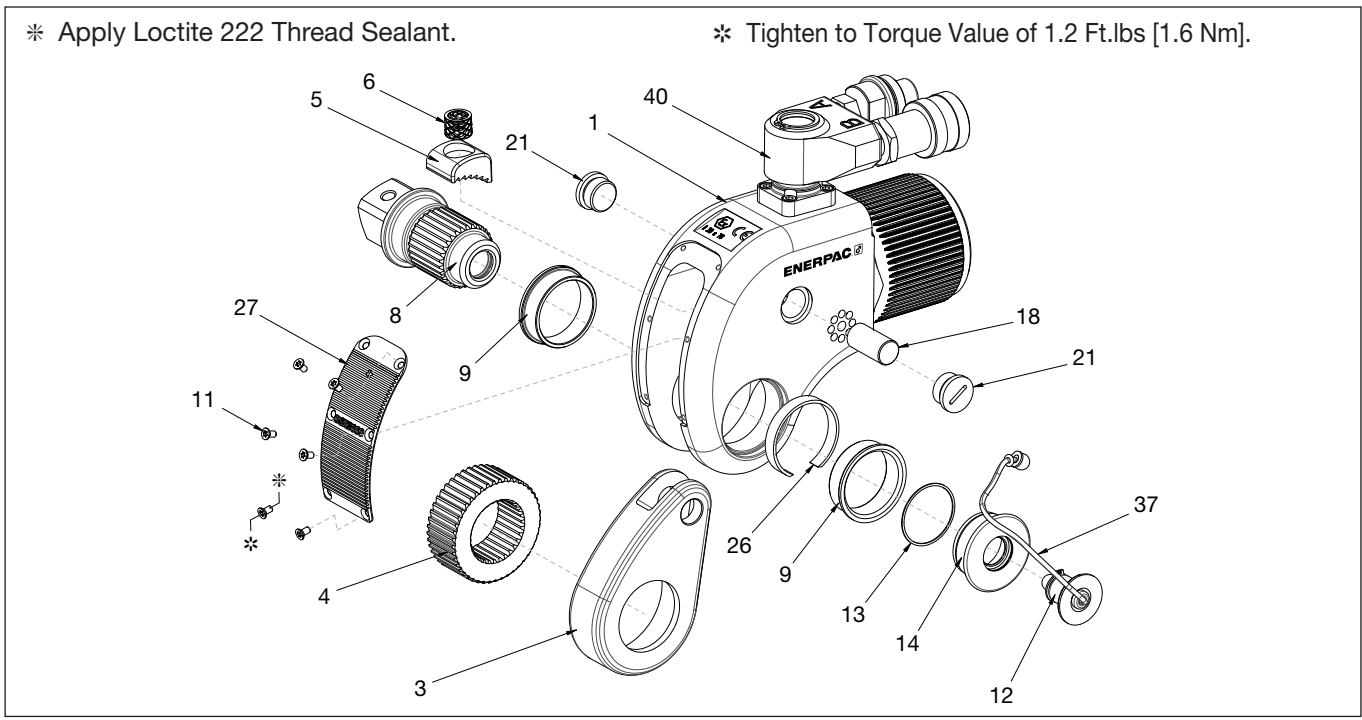
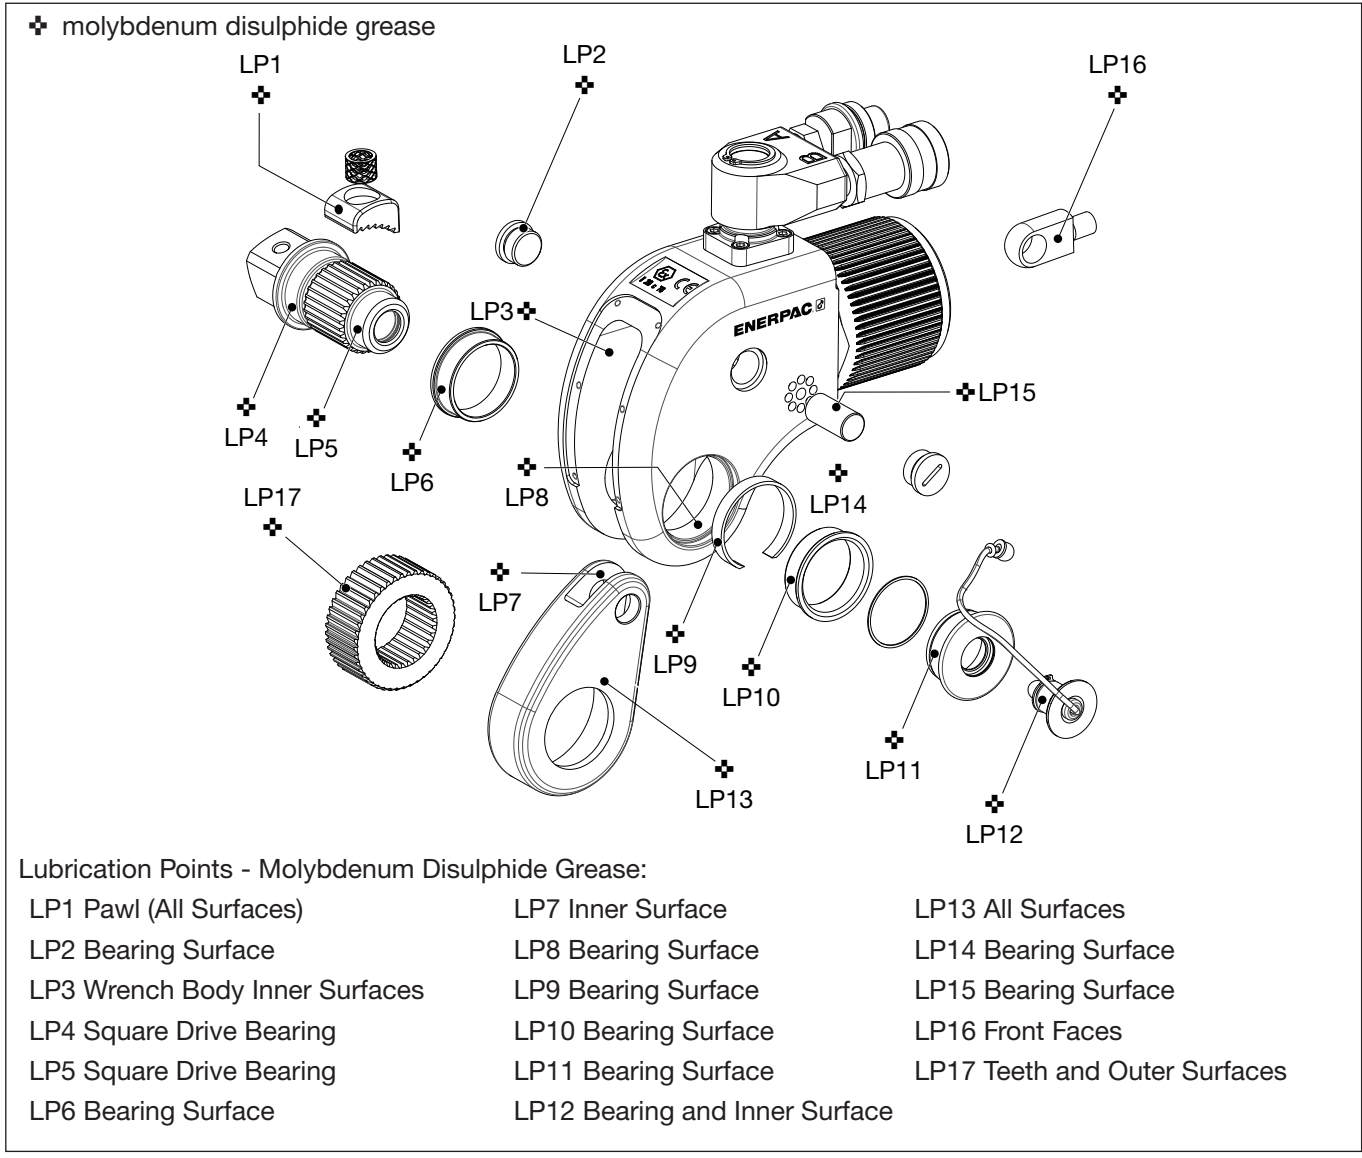

Figure 9: Exploded Torque Wrench Head
Figure 10: Torque Wrench Head Lubrication Points
7.1 Preventative Maintenance (Fig.9/ Fig.10)
1. Check tightness of swivel assembly retaining screws (40) and piston sleeve (7) (see Section 7.2).
5. Remove the shroud screws (11) and remove the shroud (27). The tether (37) will continue to link the shroud to the drive release assembly. To remove the tether unscrew the round screw, slide off the washer, and remove the tether line.
6. Remove the square drive (8) and drive retaining release assembly (12, 13, 14) along with the two bushes and drive retainer (9, 26).
7. Disengage the two access plugs (21), and slide out the rod end pin (18). The drive plate (3) can now be separated from the wrench body (1).
8. Remove the ratchet (4), pawl (5) and pawl wave springs (6).
11. Dry all components. Apply a thin coat of molybdenum disulphide grease in the areas shown in Figure 10.
NOTICE Be sure that the ratchet, drive plate, pawl, pawl wave spring, square drive, and access plugs are correctly installed in the following step. Ensure that the square drive is inserted through the drive plate and rod end of the piston assembly before installing the access plugs. Failure to install these parts correctly will result in component damage. Refer to figures 9 and 10.